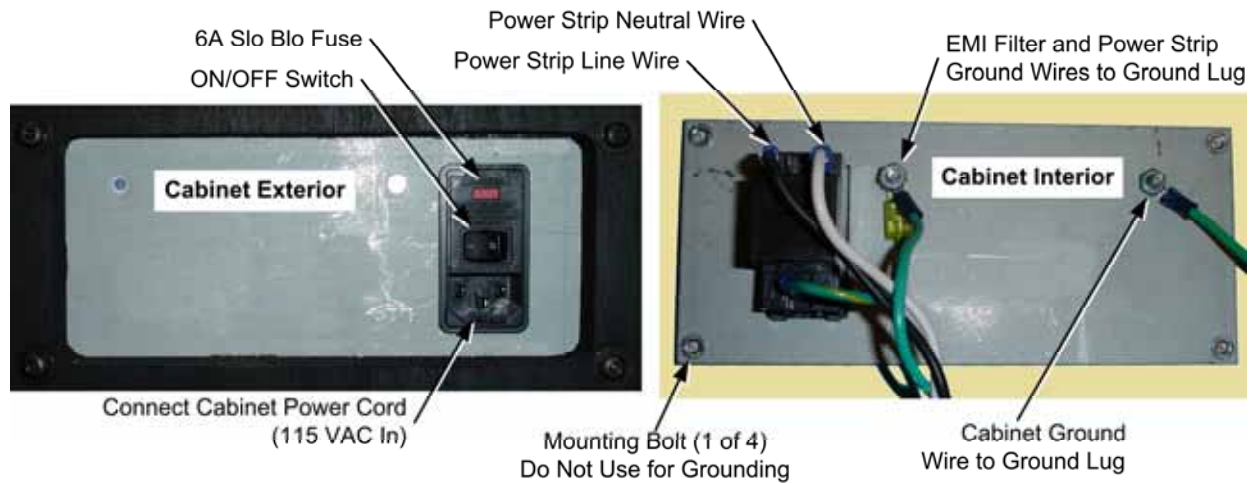

Figure 23. AC Power Plate (Shown Without Labels)
The AC power strip provides power to all of the components in the cabinet. If the cabinet has no power, check the 6A Slo Blo fuse in the power plate (see Figure 23) and replace if blown. Perform the following steps to replace the power strip:
3. Disconnect the power strip from the AC power plate terminals shown in Figure 23.